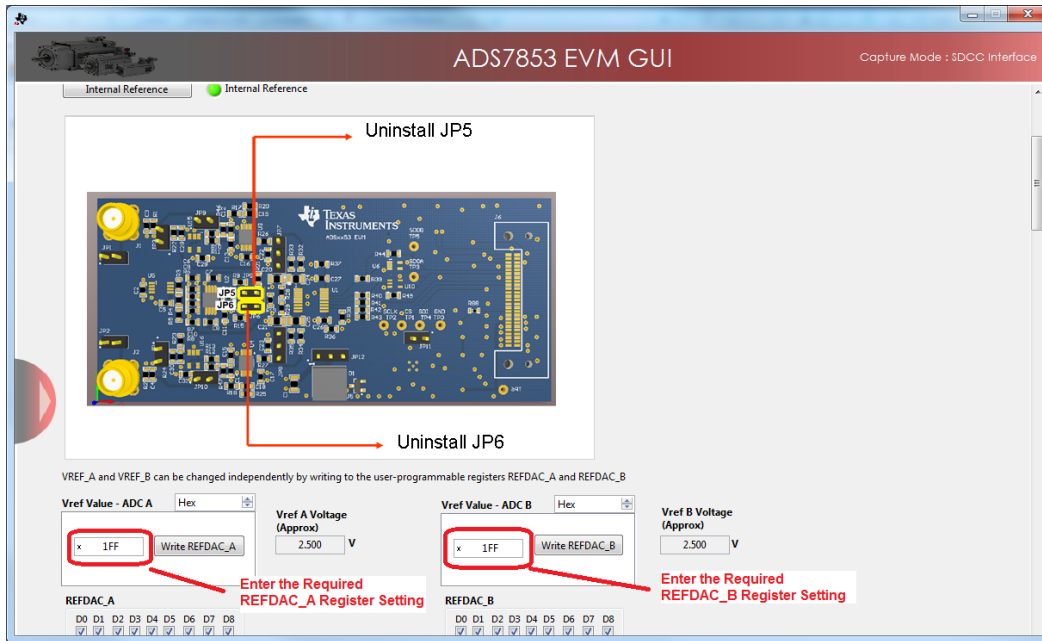

Figure 20. Programming the REFDAC Registers in the ADSxx53EVM
- The ADSxx53 device incorporates two internal programmable 2.5-V reference sources. When selecting the dual, internal programmable reference, independently change the voltages at VREF_A and VREF_B by writing to user-programmable registers REFDAC_A and REFDAC_B. The *Vref Value-ADC A* and *Vref Value-ADC B* control panels contain the REFDAC_x register settings. The reference voltage can be programmed in the range of 2.5 V to 2.0 V by entering the REFDAC_x register value in the control panel and clicking the *Write REFDAC_x* button. Figure 20 shows the internal reference *Vref Value-ADC x* control panels on the *ADSxx53EVM Settings* page of the GUI.